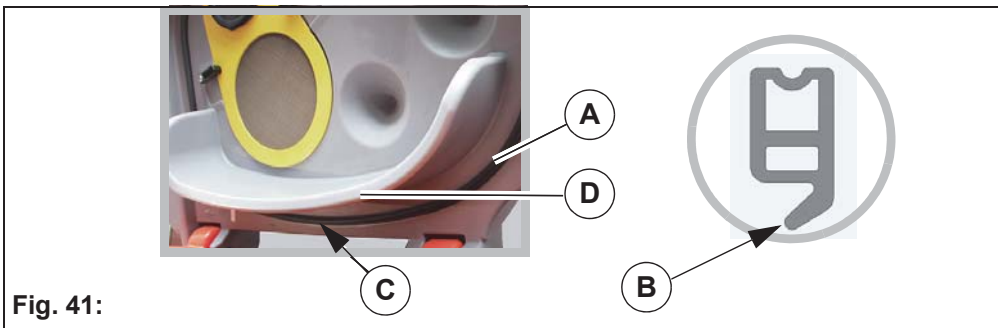

Fig. 41:
Check the function of the seal in the tank cap **Fig. 41-A** daily and replace it if damaged.
- pay attention to correct installation position – sealing lip **Fig. 41-B** must be facing outwards,
- ensure that the disconnection point of the seal finishes edge to edge – the disconnection point **Fig. 41-C** must be below the dripping edge of the cover **Fig. 41-D**,